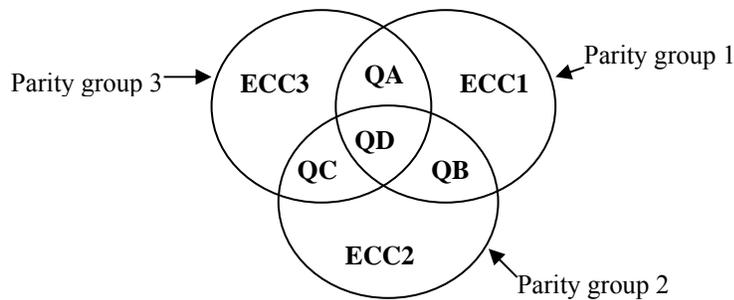

Figure 1-i: Venn diagram of error correction bit assignment.
**Requirements:** Set up one of your DIP switches to simulate seven bits of parallel data within a communication or storage system requiring error correction. The four least significant bits shall be the data bits  $Q_A$  through  $Q_D$ . ( $Q_A$  is the least significant bit.) The next three bits are error correction bits assumed to have been derived from the Venn diagram of Figure 1-i with each circle having even parity.  $ECC_1$  is the fifth significant bit,  $ECC_2$  the sixth, etc. Assuming that no more than one bit can be in error, devise a circuit that continuously displays the correct (or corrected) hexadecimal representation of the data bits  $Q_A$  through  $Q_D$  on a LED seven segment display. We have preprogrammed a CPLD board that it will display the hexadecimal value of four bits connected to it. **(BE CAREFUL not to “HOT PLUG or UNPLUG” these boards.** You can kill the CPLD doing that and then a TA has to program a new one.) See discussion below for the wiring of that board. Also light a separate LED if there is an error in any of the seven bits.
The data bits are divided into groups, and error correction bits are assigned to each group to give the group a particular *parity*. A group is said to have “even” parity if it has an even number of '1s', and odd parity if the number of '1s' is odd. For four bit parallel data, there is a way to add three correction bits to form three parity groups from which single bit errors can be both detected and corrected. Figure 1-i shows the simple Venn diagram on which the technique is based.